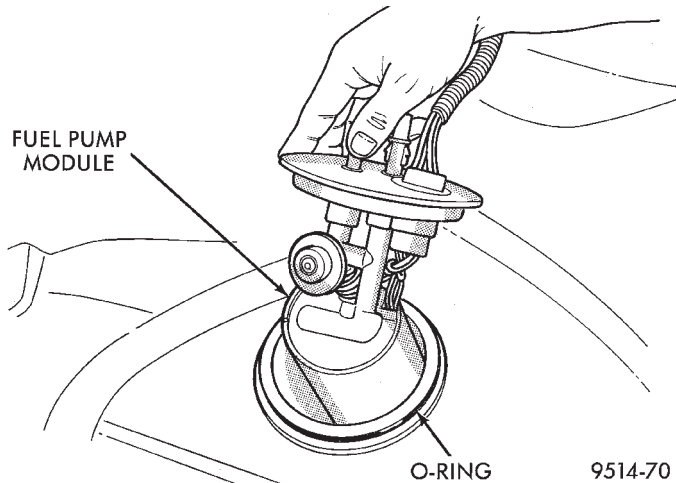

Fig. 15 Fuel Pump Module Removal
(7) Remove fuel pump module and O-ring from tank (Fig. 15). Discard O-ring.